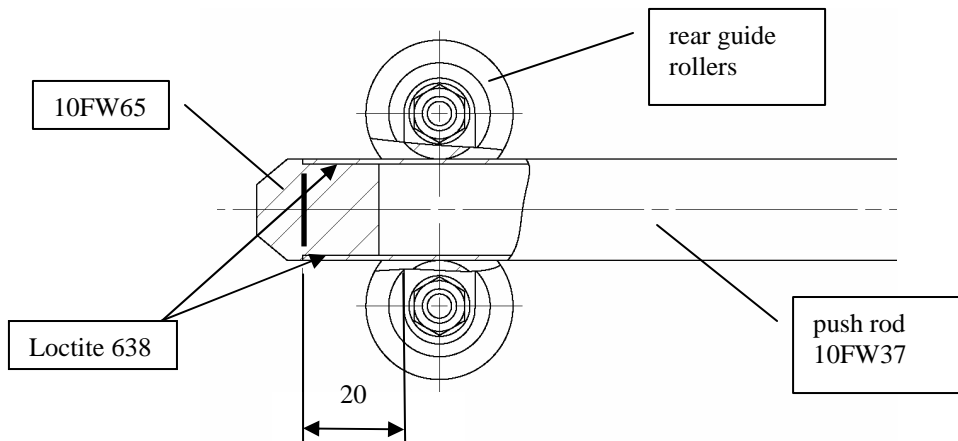

figure 11: installation of part 10FW65
5. Cut off X-20 mm from the pushrod 10FW37 (X see 3.). Glue part 10FW65 according to fig. 11 using Loctite 638.